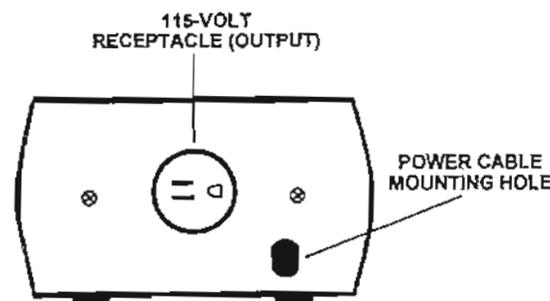

Figure 3-1. Power transformer cable.
- f. Thread these wires through the power cable mounting hole (fig 3-1) until the protective sheath is approximately 1 inch inside the case.